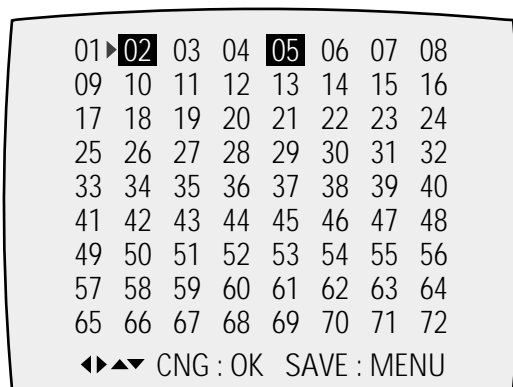

Fig. 2-4
- 2) Press the "MENU" button on the remote control about 5 seconds then option setting display is appeared. (See Fig. 2-4)
(If "OK" button is pressed, the selected number is changes reversed color. ; See Fig. 2-4)